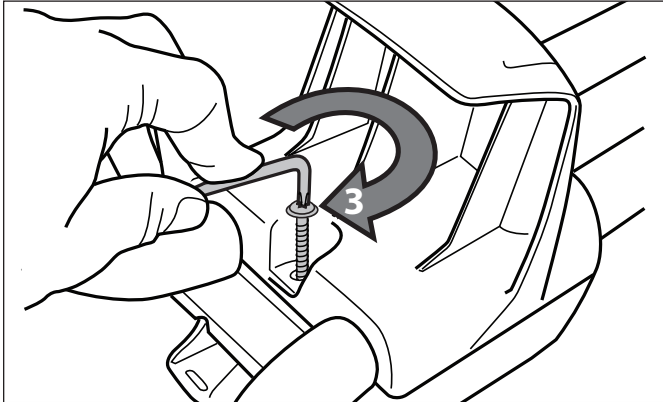

Figure 3. Install the Power Cable Hook and Control Unit Hook
- Secure the power cable hook and control unit hook around the tubes using a screw and hand tighten with the Torx® wrench (supplied with unit). Refer to Figure 3.